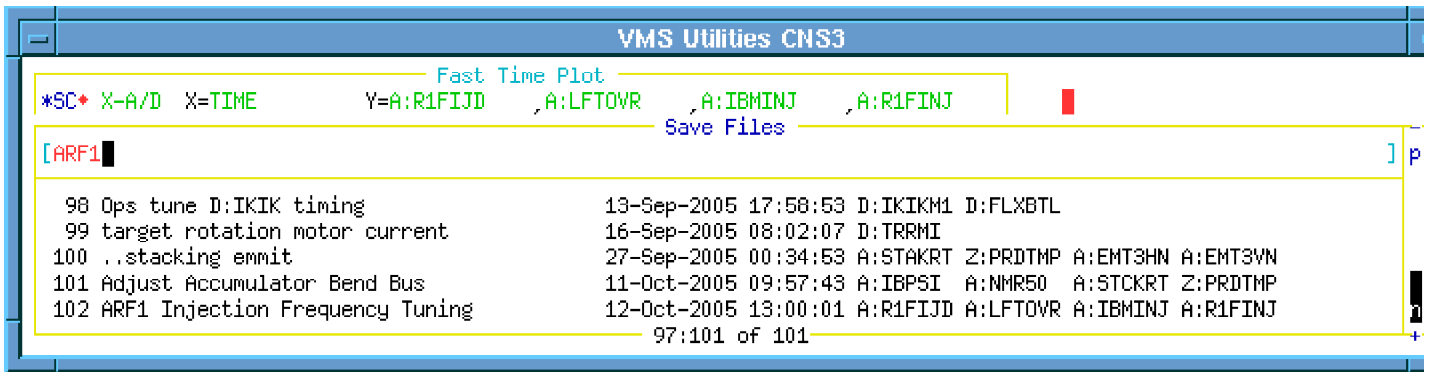
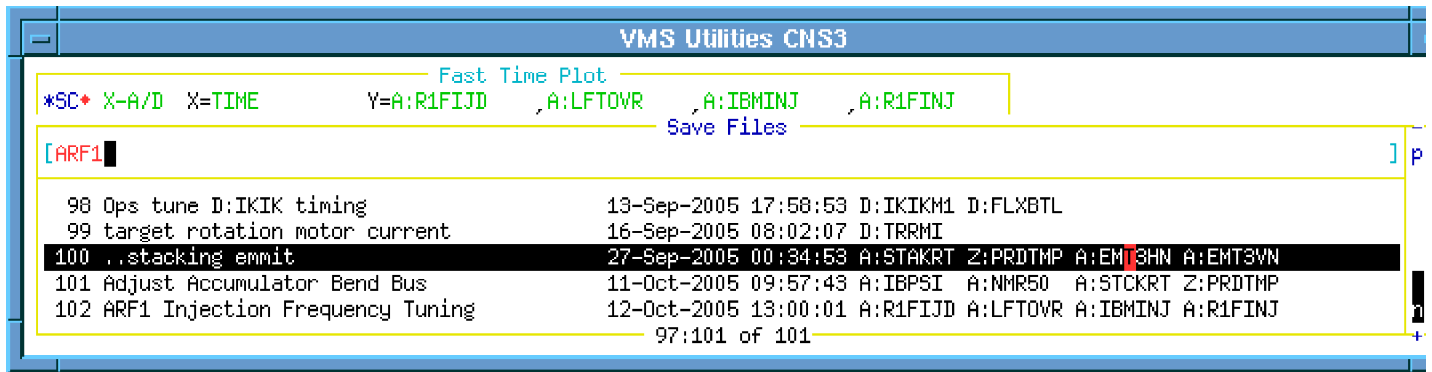

Figure 20: From the Utilities Window, click on FTP, then click on Restore, and then select P-bar. Select file 102 and start the FTP.
Figure 22: From the Utilities Window, click on FTP, then click on Restore, and then select P-bar. Select file 100 and start the FTP.
5.  With the Stacktail Monitor running, we will now start two FTPs to help us determine if the ARF1 tuning changes we are about to make do us any good. Start a FTP from Utility Window FTP Pbar File 102 as shown in Figure 20.
7. We should also be sure that we are monitoring the stack rate and production, since our overall goal is to increase their values. If we are not monitoring these values, we can start Utility Window FTP Pbar File 100 as shown in Figure 22. Do not overwrite the plot that was started above in Figure 20.